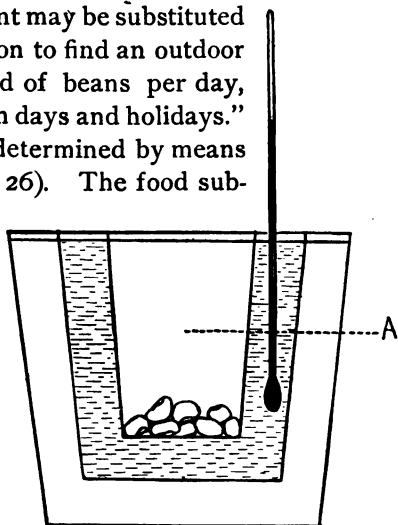

FIG. 26. — The bomb calorimeter from which the fuel value of food can be estimated.
The fuel value of a food is determined by means of the *bomb calorimeter* (Fig. 26). The food substance is put into a chamber *A* and ignited, and the heat of the burning substance raises the temperature of the water in the surrounding vessel. If 1000 grams of water are in the vessel, and the temperature of the water is raised $2^{\circ}\text{C}.$, the number of calories produced by the substance would be 2000, and the fuel value would be 2000 calories.* From this the fuel value of one quart or one pound of the substance can be deter-
62. The Fats. The best-known fats are butter, lard, olive oil, and the fats of meats, cheese, and chocolate. When we test fats for fuel values by means of a calorimeter (Fig. 26), we find that they yield twice as much heat as the carbohydrates, but that they burn out more quickly. Dwellers in cold climates must constantly eat large quantities of fatty foods if they are to keep their bodies warm and survive the extreme cold. Cod liver oil is an excellent food medicine, and if taken in winter serves to warm the body and to protect it against the rigors of cold weather. The average person avoids fatty foods in summer, knowing from experience that rich foods make him warm and uncomfortable. The harder we work and the colder the weather, the more food of that kind do we require; it is said that a lumberman doing heavy out-of-door work in cold climates needs three times as much food as a city clerk.